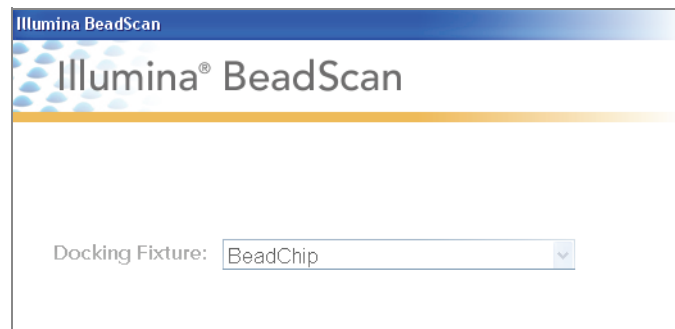

Figure 88 Select BeadChip Docking Fixture
1. From the **Docking Fixture** listbox, select BeadChip (Figure 88).